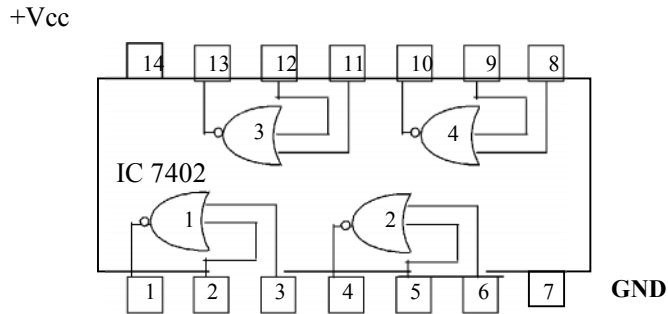

Fig 8
- 1) Study the internal pin configuration of IC 7402 as shown in fig 8.